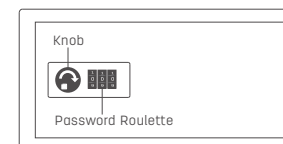

Fig.1
2. Opening the interior door for the first time (Fig.1)